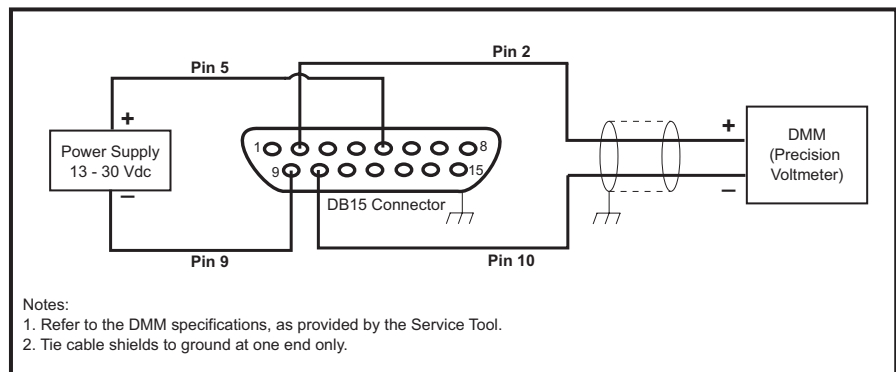

Figure 7-3 Setup for Calibrating to a Primary Output Voltage
Prior to using the Service Tool to calibrate the device outputs, you must connect a DMM to the device's output signal, which you will use to verify the actual signal level. Figures 7-3 through 7-5 show how to set up the DMM for the available output types.
2. Make sure that the DMM is set up as instructed in Step 1 of the wizard (and shown in Figure 7-3, 7-4, or 7-5), then click the **Next** button to advance to Step 3 of the wizard.